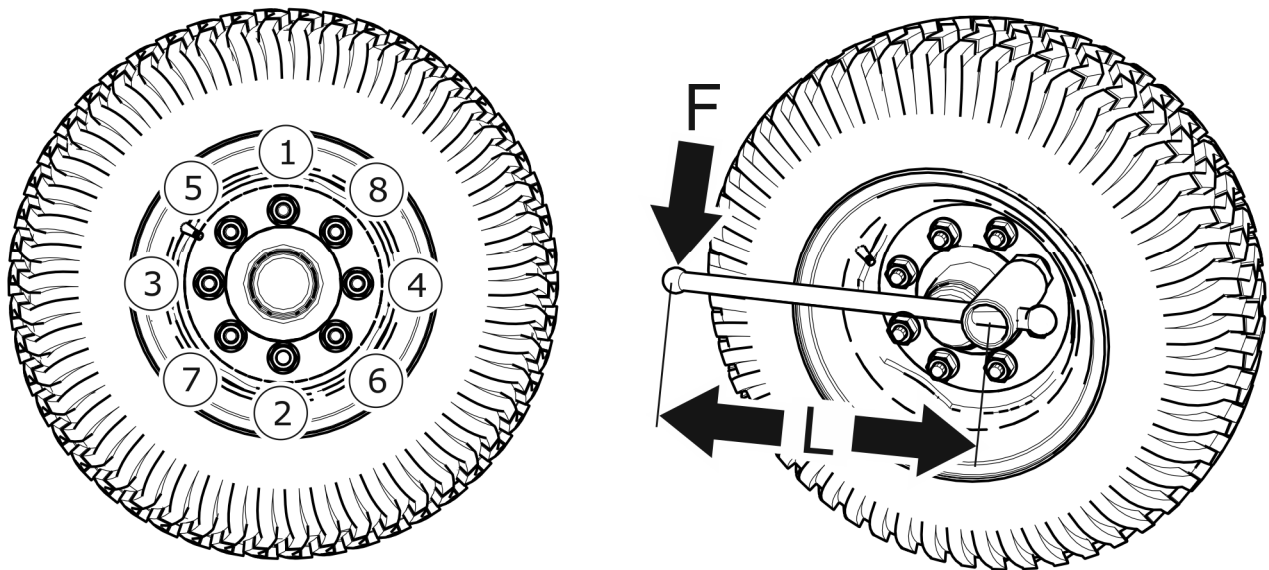

FIGURE 5.3 Nut tightening sequence
- ➔ Loosen the wheel nuts following the sequence of operation provided in Figure 5.3.